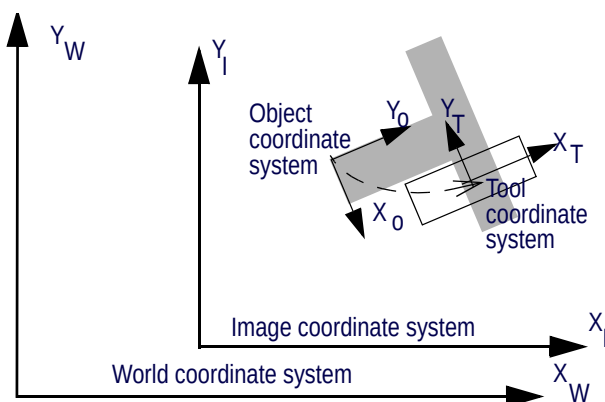

Figure 238 Model-Based Mode: Relationship between Tool and Object Coordinate Systems
- **Positioning coordinate system:** The Model-based mode is designed for the inspection of randomly oriented parts. The coordinate system used to position the tool is the Object coordinate system defined in the Model, as shown in Figure 238.